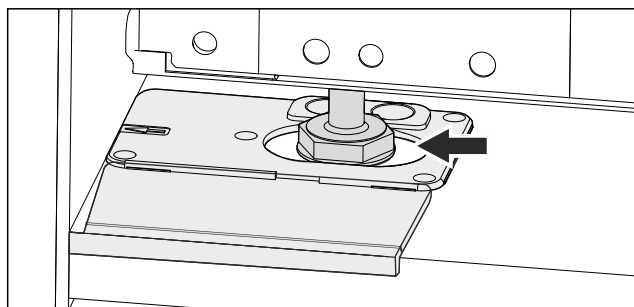

Fig. 51
- Align the appliance with the adjustable feet. Fig. 51 ()